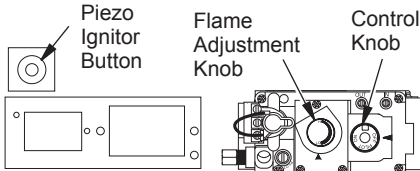

Figure 26 - Control Knob and Ignitor Button Location (Shown as Supplied - No Control Options)
4. Wait five (5) minutes to clear out any gas. Then smell for gas, including near the floor. If you smell gas, STOP! Follow "B" in the safety information. If you don't smell gas, go to the next step.
5. Press in and turn control knob counter-clockwise  to the PILOT position. Press in control knob for five (5) seconds (see Figure 26, page 19).